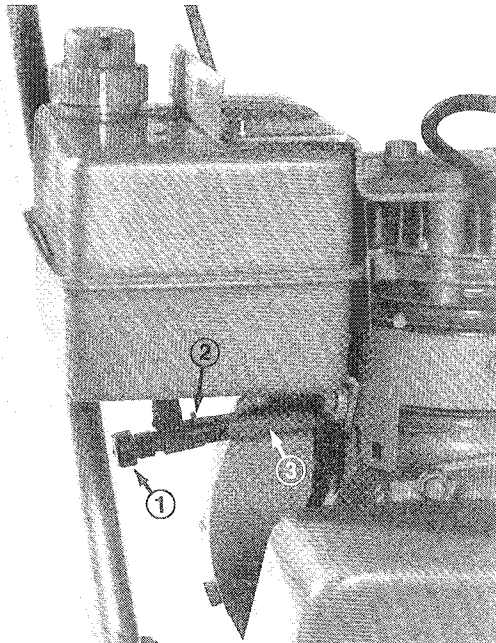

Figure 23
1. Close fuel shut-off valve located under fuel tank (Fig. 23).
3. Loosen hose clamps securing fuel line to valve and slide line off valve (Fig. 23).